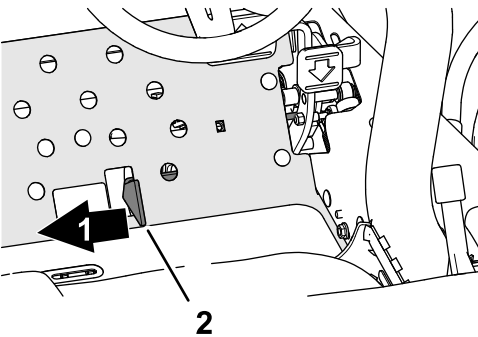

Figure 39
- Move the mow/transport slide right, to the Mow position (Figure 39).
- Move the mow/transport slide to the right to the MOW position (Figure 39).